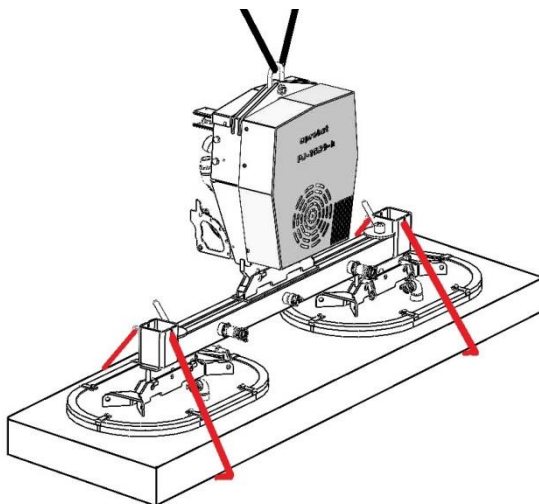

Fig. 1
The suction plates must always have the same distance (A) to the vertical centre axis of the spreader bar (see figure 1).
- The safety chains must fit tightly to the load, in that way that the load is held in case of a vacuum failure (Fig. 1)